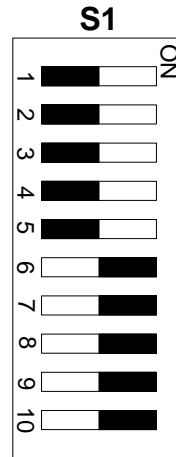

Figure 1
- a. For programming and regular operation, set S1 as shown in Figure 1.
- (1) DIP switch 1-5 OFF and 6-10 ON